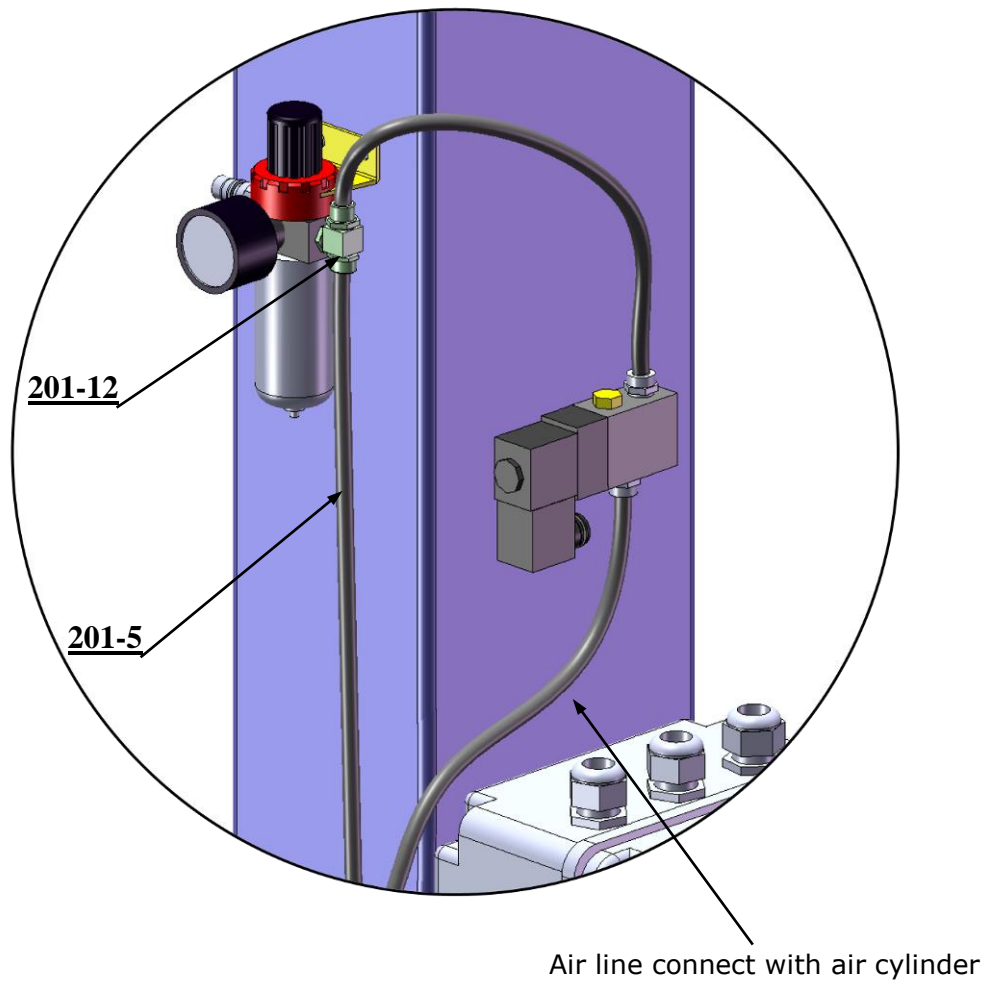

Fig. 45
b. Connecting air solenoid valve(Fig.45).